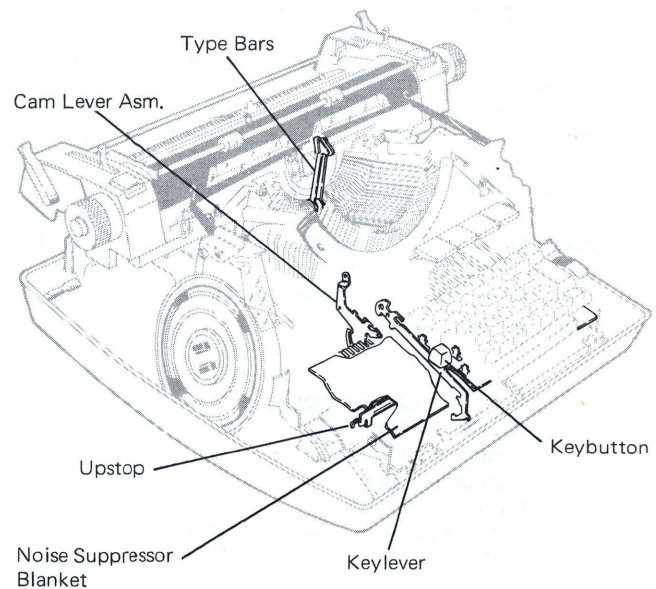

Figure 11 – D1, D4 Keylever Removal
2. Remove the keylever up stop, power roll (refer to power roll removal) and front frame of the "Executive" typewriter. It may also be necessary to remove the flipper button assembly or cut the noise suppressor blanket to remove the keylever (Figure 11).